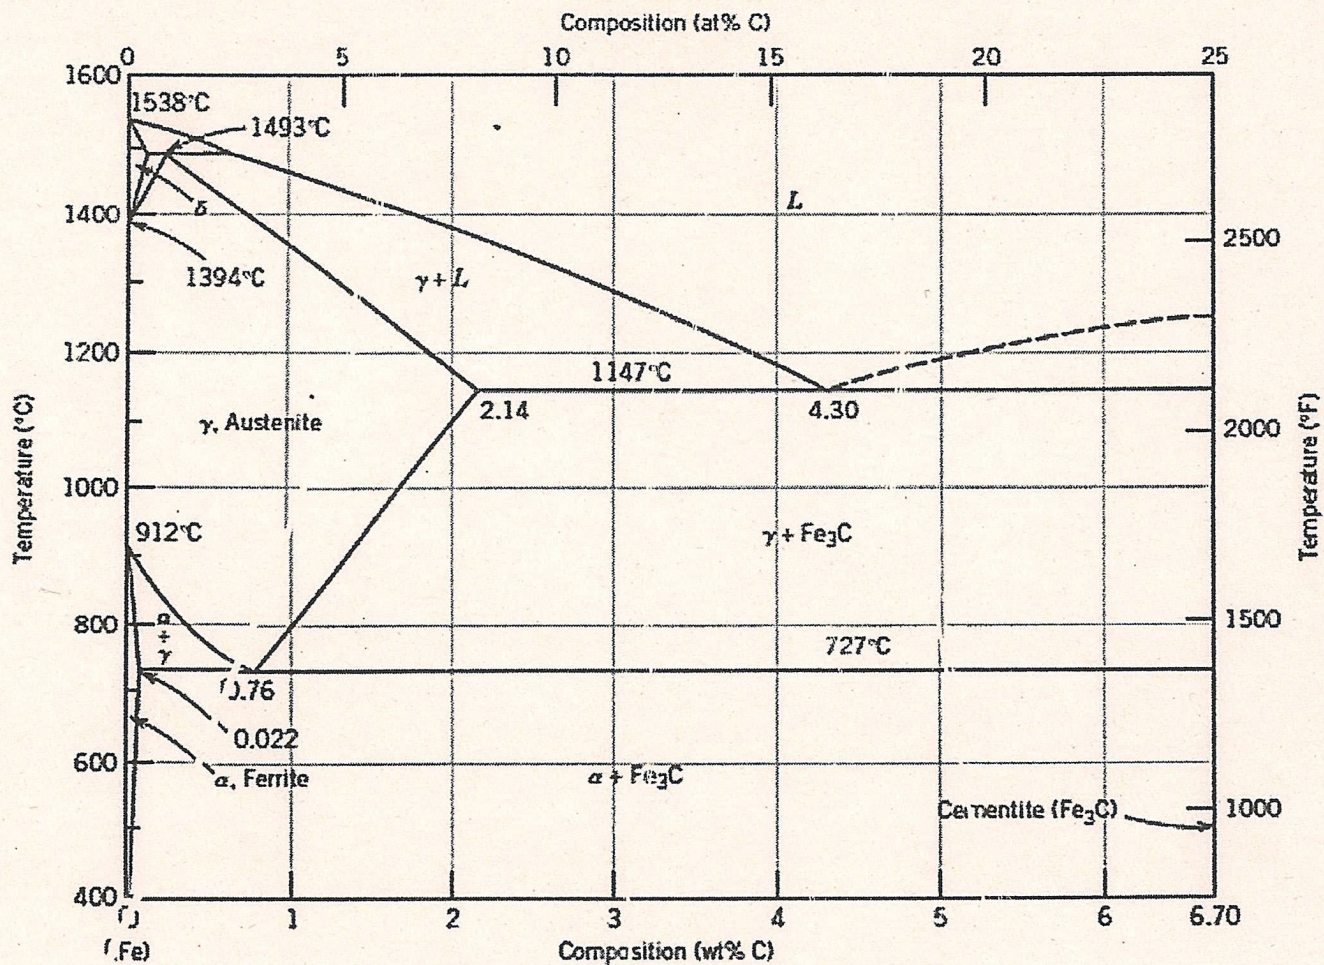

Figure 2 Iron (Fe)- Carbon(C) Phase Diagram.
2) Steel is made by mixing iron(Fe) with carbon(C). This mixing produces an interstitial solid solution as the carbon atom is much smaller than the Fe atom. Answer the following questions referring to the attached phase diagram (Figure 2 attached separately).
- (I) Describe the crystal structures of α -Ferrite, γ -Austenite and δ -Ferrite phases.
- (II) What is the maximum solubility of carbon in α -Ferrite and γ -Austenite phases?
3) (I) Electrical conductivity of a semiconducting material can be given by the following equation,